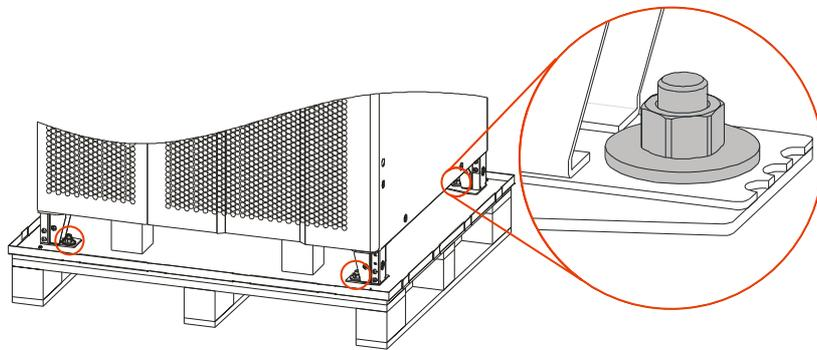

Figure3-6 Bolts position
- Step 5 After checking, unscrew the bolts that connected with device and fixed part by socket wrench, the bolt position is as shown in Figure3-6. (Here take the BM33400 as an example.)
Step 6 After checking, unscrew the bolts that connected with device and wooden bracket by socket wrench, the bolt position is as shown in Figure3-6. (Here take the BM33400 as an example.)